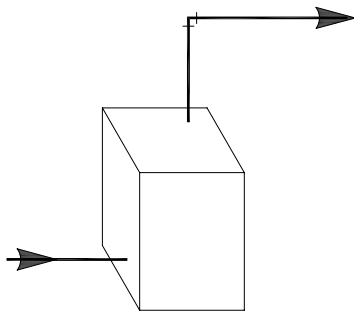

Figure 3.1
1. See Figure 3.1 for suggested piping to the boiler.
3. Plug all open tapings in the boiler and fill with water. Apply approximately thirty (30) psi pressure. Check to make certain that all joints and fittings are water tight.